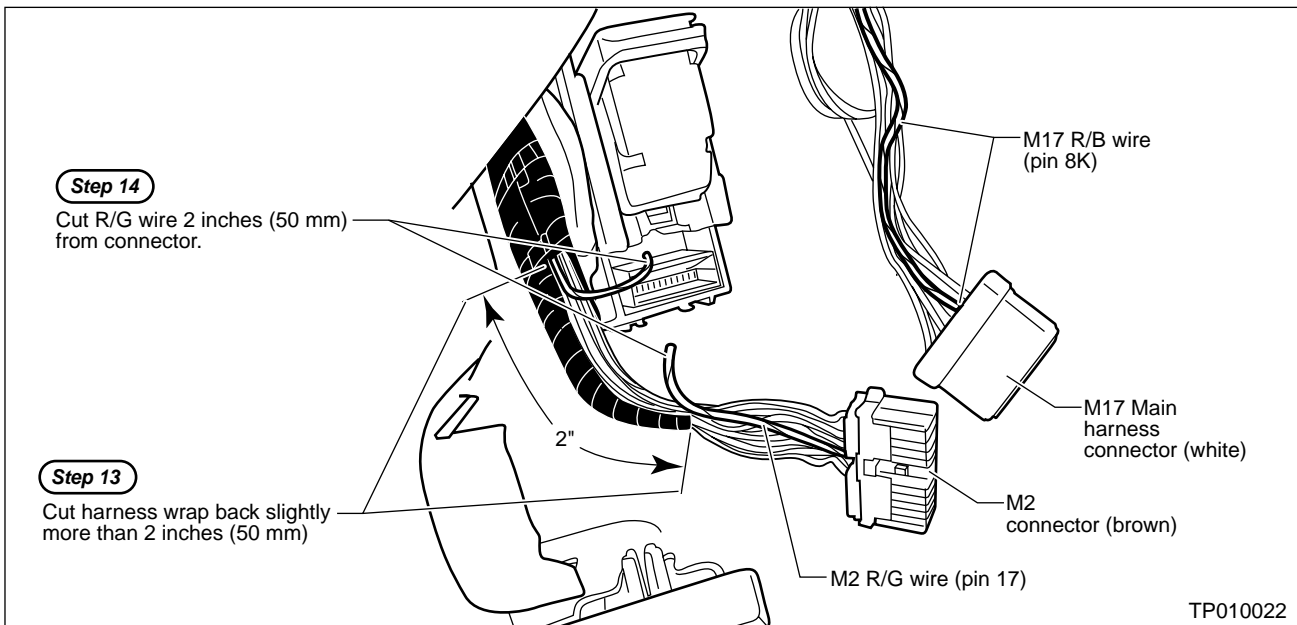

Figure 9
13. Cut the harness wrap surrounding the M2 connector wires back slightly more than 2 inches – 50 mm (see Figure 9).
14. Cut the R/G wire on the M2 connector 2 inches (50 mm) from the connector (see Figure 9).